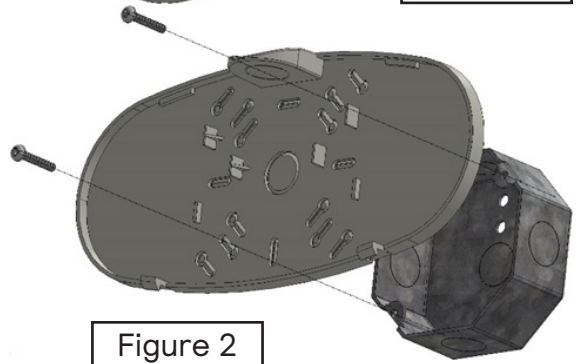

Figure 2
2. Remove center knockout in backplate and appropriate keyhole knockouts. Mount backplate to junction box. See Figure 2.